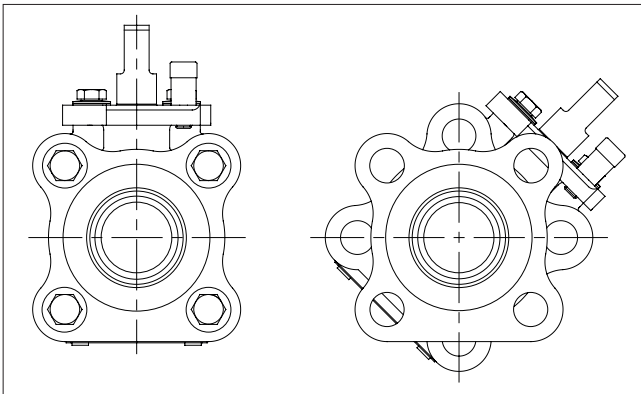
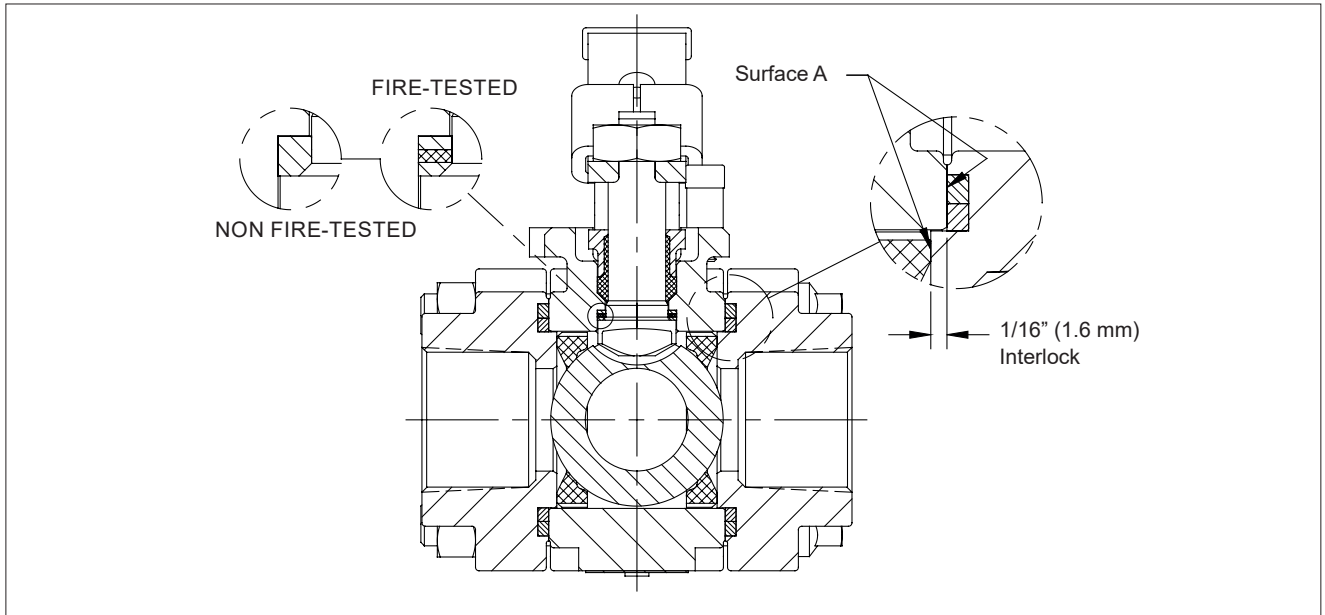
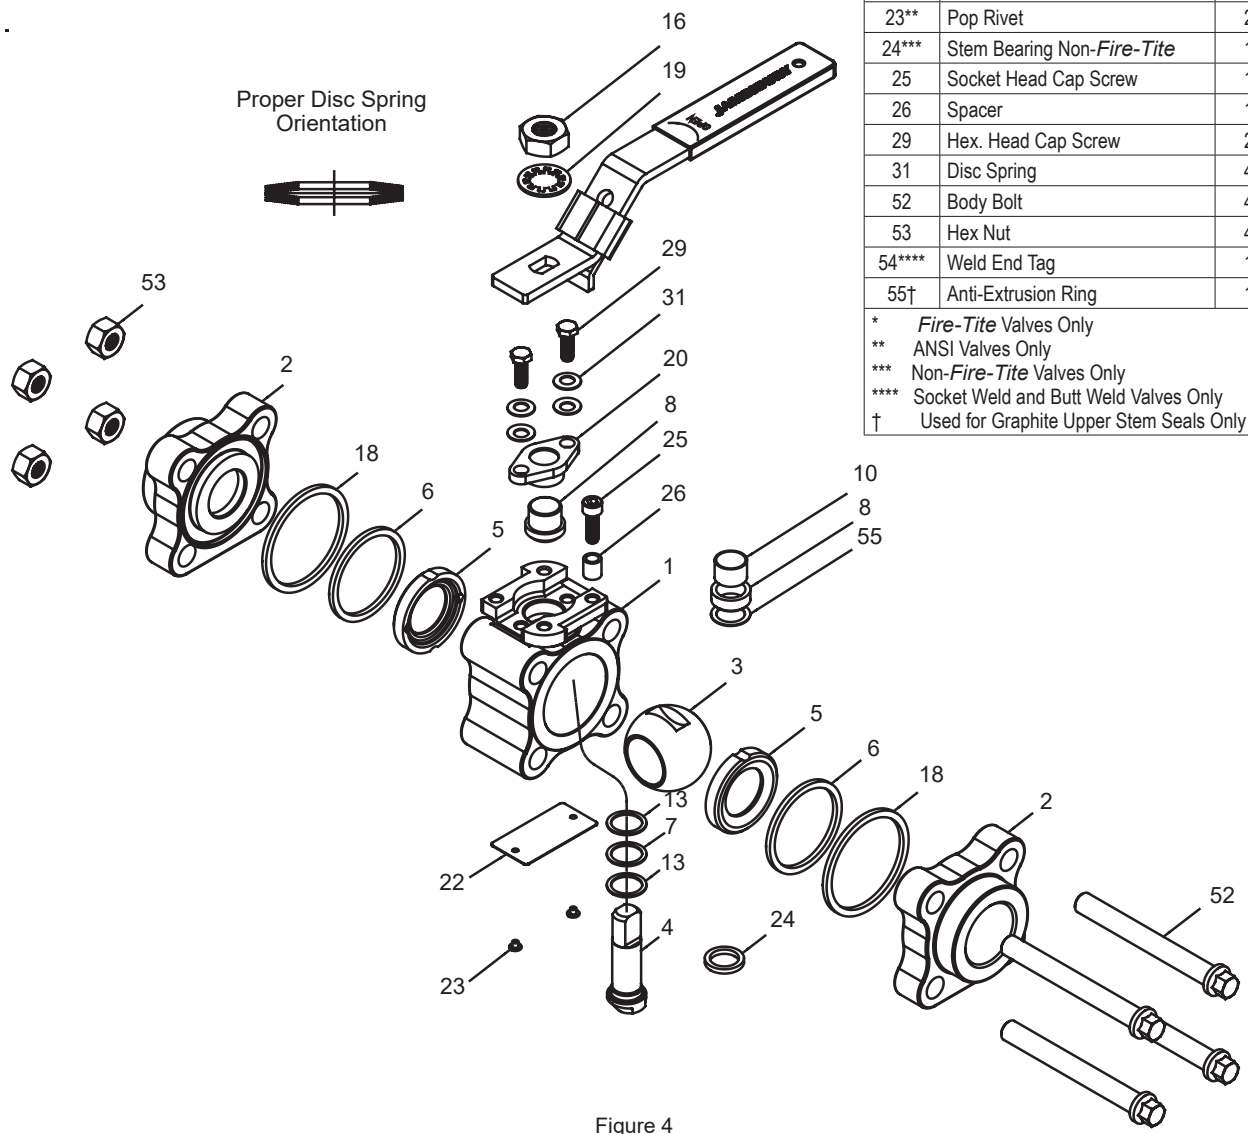

Figure 1.
Figure 3.
Figure 4
3. Remove the handle nut (16) and handle (17).
4. Loosen all four body bolts (52). Remove three from the valve. Leave the remaining bolt in place with the hex nut (53) backed off at least 1/4" (6.4 mm).
5. For positive alignment and ease of in-line assembly, each end cap is interlocked approximately 1/16" (1.6 mm) into the body as shown in **(Figure 3)**. To overcome this feature during in-line disassembly it is necessary to separate each cap at least 1/8" (3.2 mm) from the body. Sharply rap body and caps with a block of wood or plastic mallet to break loose body seal. Spread end caps and swing the body out of the line. If pipe does not allow simple spreading, remove the remaining body bolt and rotate center section per **(Figure 1)**. This will improve access to the end cap flange for ease of spreading. Swing the valve body (1) out from between the end cap (2). Be careful not to damage the sealing surfaces "A" **(see Figure 3)** at each end of the valve.
1. With the valve swung to the out-of-line position, insert from the inside of the body a stem bearing (13), a secondary stem seal (7), then another stem bearing (13) into the stem bore. For non-Fire-Tite valves use one stem bearing (24). See **(Figure 3)** and parts list **(Figure 4)**.
3. Holding the stem in place from the bottom, install the stem seal (8) and the compression plate (20). For valves with graphite stem seals (8), install upper stem bearing (10) and anti-extrusion ring (55) prior to installing the stem seal (8).
4. Place the disc springs (31) on top of the compression plate over the bolt holes and insert the hex. head cap screws (29) and bring them down hand tight with the disc springs. **NOTE:** See **(Figure 4)** for proper disc spring orientation.
5. While pressing the stem upward from inside the body, torque the hex head cap screws (29) applying the torque shown in **(Table 2)**. Apply torque evenly alternating between the two hex head cap screws so that compression plate will be parallel with the valve body bonnet.
6. Align the stem blade with the ball slot. Insert the ball (3) and then rotate the stem (4) so that the ball is in the closed position.
7. Working at either end of the body (1), place a seat (5) into the body. Fit it snugly against the closed ball. **NOTE:** The sealing surface of the seat is toward the ball (**see Figure 4**).
8. Place an inner body seal (6) and an outer body seal (18) into the machined sealing groove of the body cap (2) (**see Figure 3**). **NOTE:** On those valves with metal seats (DH seat/seal code), there is a one piece body seal (6). Be certain that the groove and seal are clean.
13. Bolt the valve together with lubricated body bolts (52) and hex nuts (53). Tighten these bolts evenly and alternately. (**See Table 1 for the torques.**)
14. Attach the handle (17) and secure it with the handle nut (16) applying the torque shown in **(Table 3)**.
- From **Figure 4**, the ballooned part number, part name and quantity required